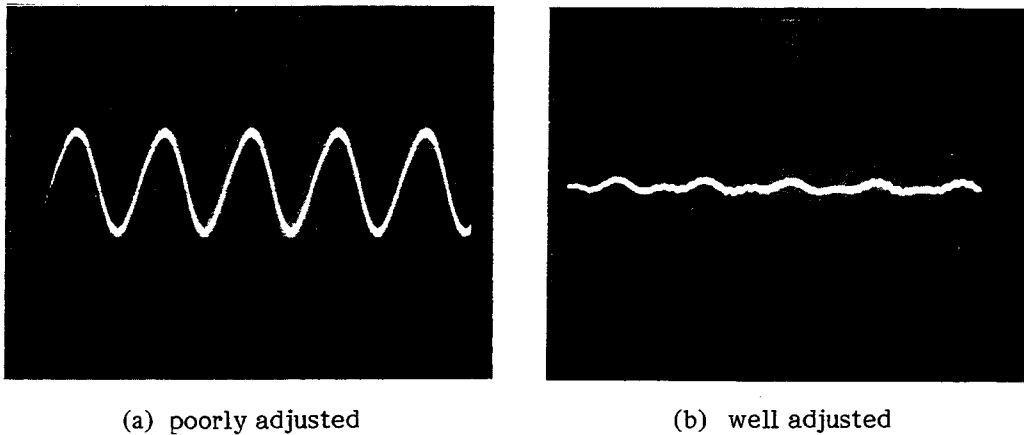

Figure 5-16. Waveforms at Outer Conductor of Feedthrough Termination
- f. Adjust A1C5 to minimize the amplitude of the 10MHz signal as shown in Figure 5-16.